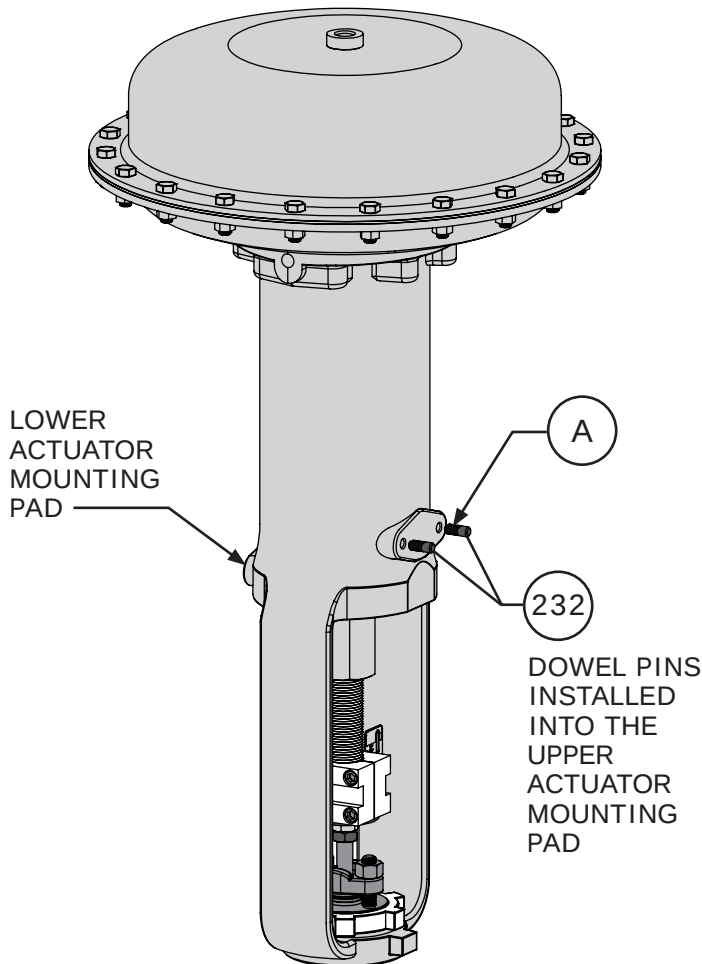

Figure 41 Dowel Pin Installation
- 2 Remove any positioners and/or instrumentation installed on the actuator. **NOTE:** Be aware that the upper instrument mounting pad of the actuator yoke (refer to Figure 41) is the standard mounting location for the side-mounted handwheel and should be free of instrumentation, mounting brackets, and/or other obstructions.
- 5 Apply Permatex Nickel Anti-Seize (Key A) to the threads of the dowel pins (Key 232) and thread them into the upper instrument mounting pad of the actuator. Refer to Figure 41.